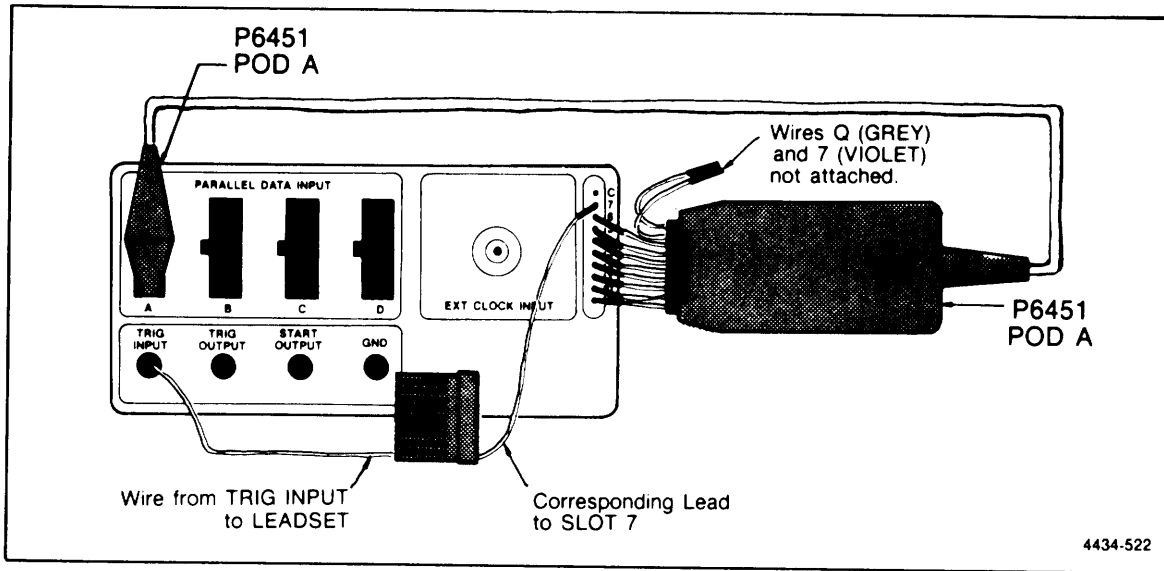

Figure 5-42. 338 External trigger check setup.
- a. Refer to Figure 5-42. Power up the 338 and connect the data leads of the P6451 Parallel Data probe in Pod A to TEST OUTPUT as follows: